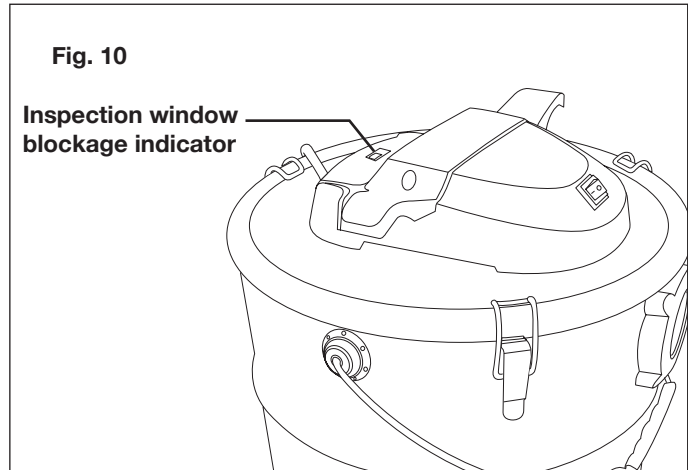

Fig. 10
- Clean the pleated filter (see Maintenance section) if the suction performance deteriorates or when the inspection window blockage indicator on the container lid turns red (Fig. 10).